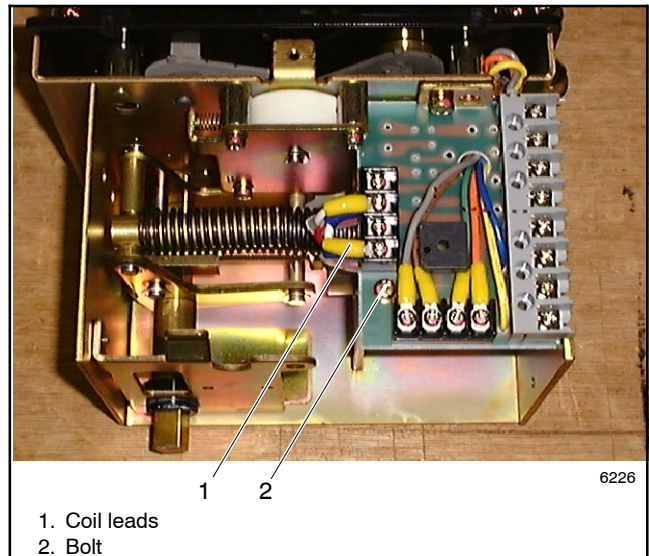
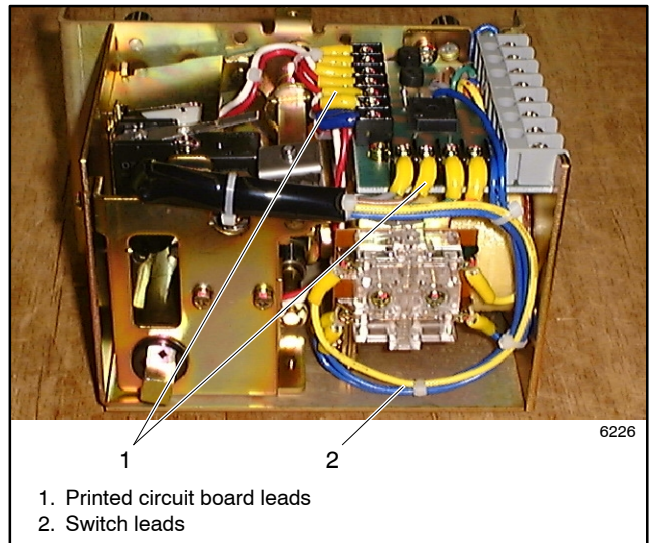

Figure 8-11 Circuit Board Connections
Figure 8-12 Control Switch Wiring
1. Note the connections (for reconnection later) and disconnect the printed circuit board leads. See Figure 8-11 or Figure 8-12.
2. Disconnect the control switch leads at three terminals. See Figure 8-12.
4. Remove the bolt and replace the printed circuit board. See Figure 8-11.